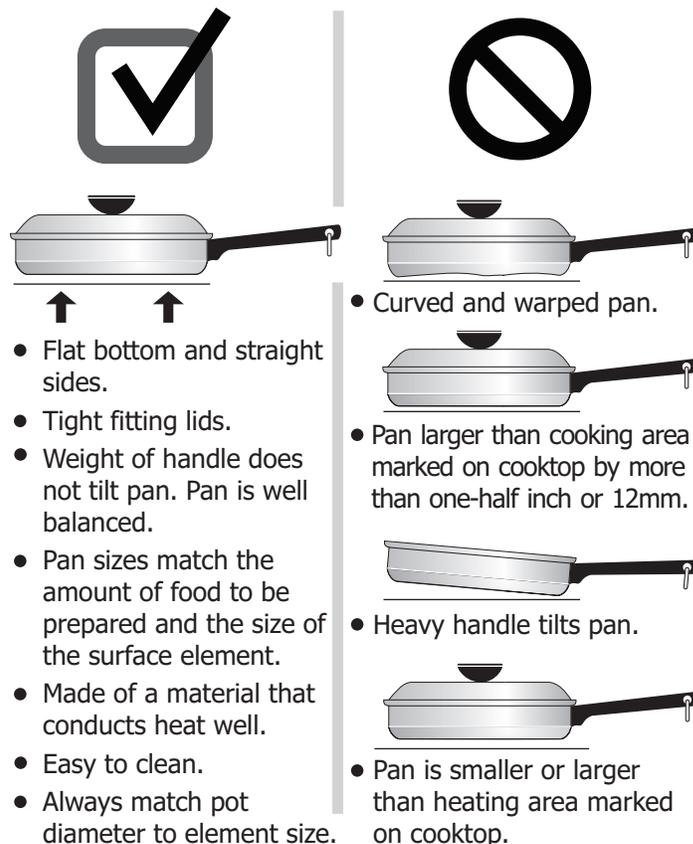
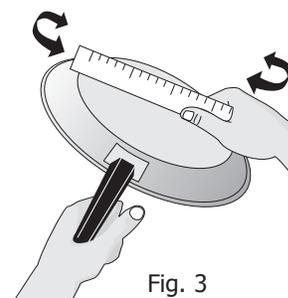

Fig. 2
Fig. 3
Oven with hidden Bake Element - Fig. 3*
4. Assemble one connector arm at a time. With the oven door open and the oven rack in place, install one end of the connector arm to the hole in the **door connector bracket** (Fig. 1) and the other end in the hole in the **rack connector bracket** (Fig. 2 and as in Fig. 3). The oven rack may need to be adjusted in or out in the rack position to match the length of the connector arm.
The size and type of cookware used will influence the setting needed for best cooking results. Be sure to follow the recommendations for using proper cookware as illustrated in Figs. 2 & 3.
Cookware should have flat bottoms that make good contact with the entire surface heating element (See Fig. 2). Check for flatness by rotating a ruler across the bottom of the cookware (See Fig. 3).